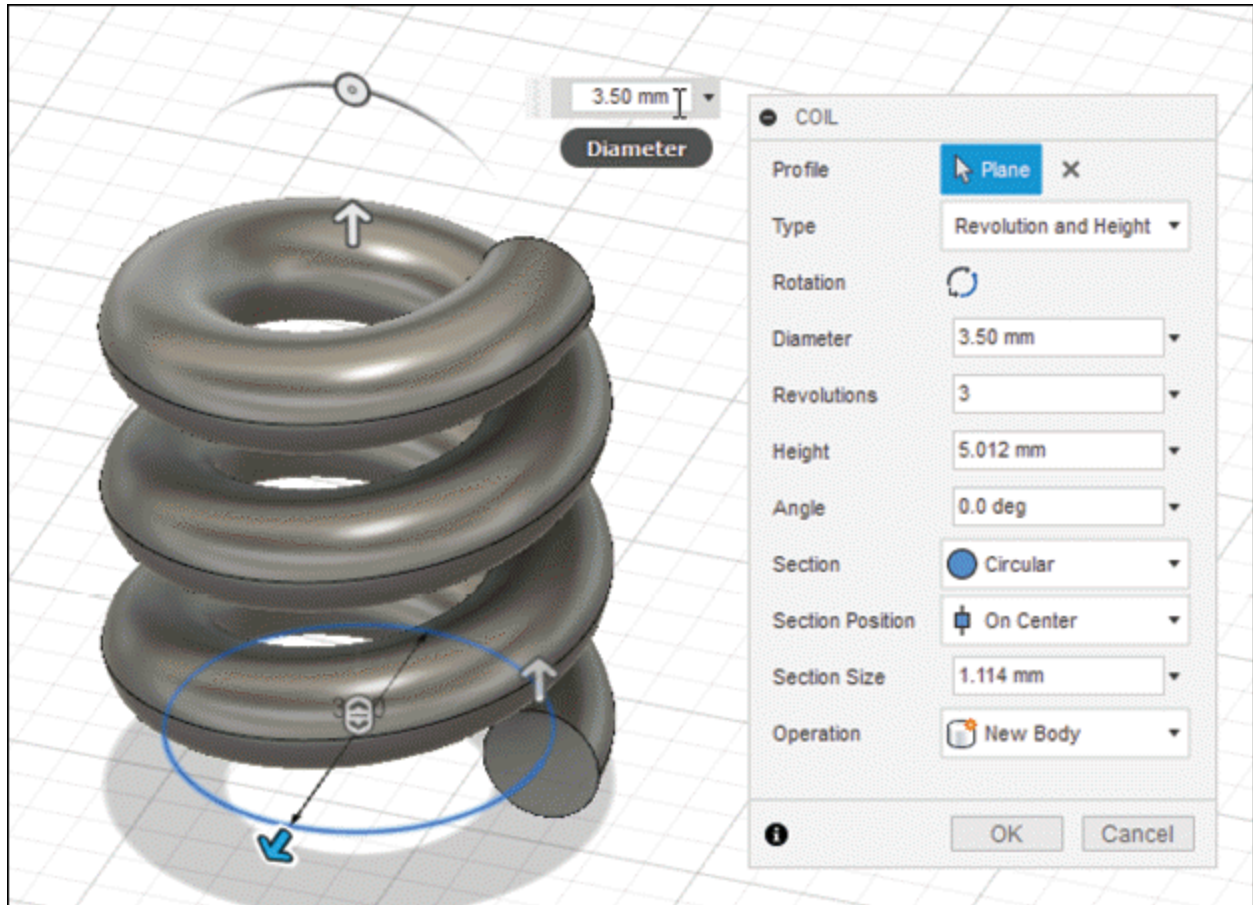

Figure-76. Preview of coil with COIL dialog box
- The **COIL** dialog box will be displayed along with the preview of coil; refer to Figure-76.